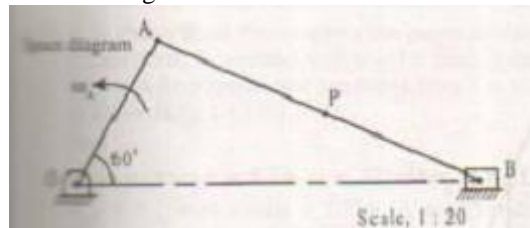

Fig. 2.2
- The crank of a slider crank mechanism is 480mm long and rotates at 20 rad/sec in the counter clockwise direction. It has a connecting rod of 1600mm long. Determine the following when the crank is 60 degree from the inner dead centre, angular velocity of the connecting rod, the position and the velocity of a point P on the connecting rod having least absolute velocity shown in the fig.2.2